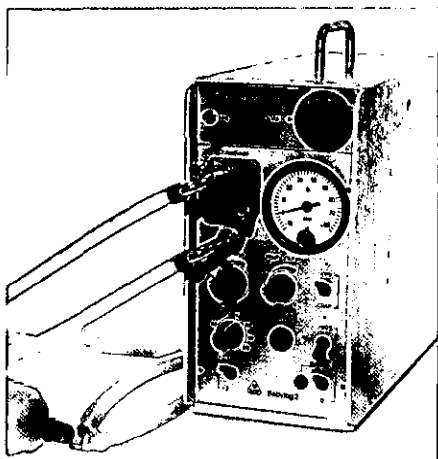

Fig. 4 Babylog 2 with Babymix in protective housing
- for Babylog 2 with Babymix gas mixer (Fig. 4).